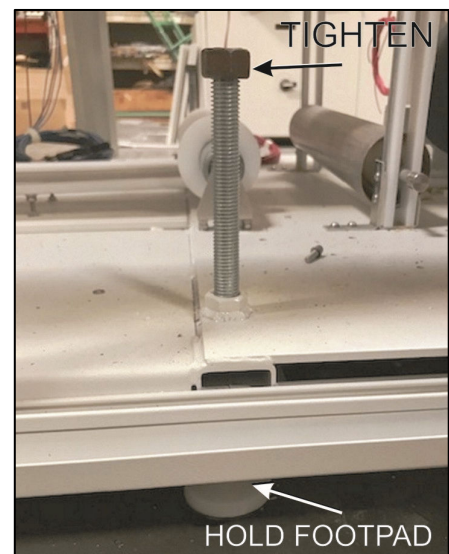

Figure 2-6 Tighten Footpad
- A. After footpads are installed, starting with the four corner studs, turn each stud clockwise until foot touches floor on all four corners, Figure 2-6.